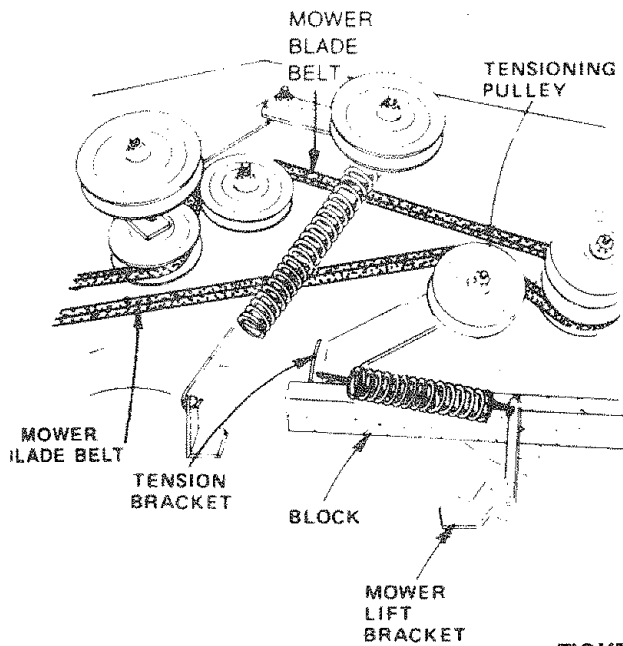

FIGURE 42
- Pull belt towards rear of mower at tensioning pulley (Fig. 42). Place a block between tension bracket and mower lift bracket. Roll belt off tensioning pulley.